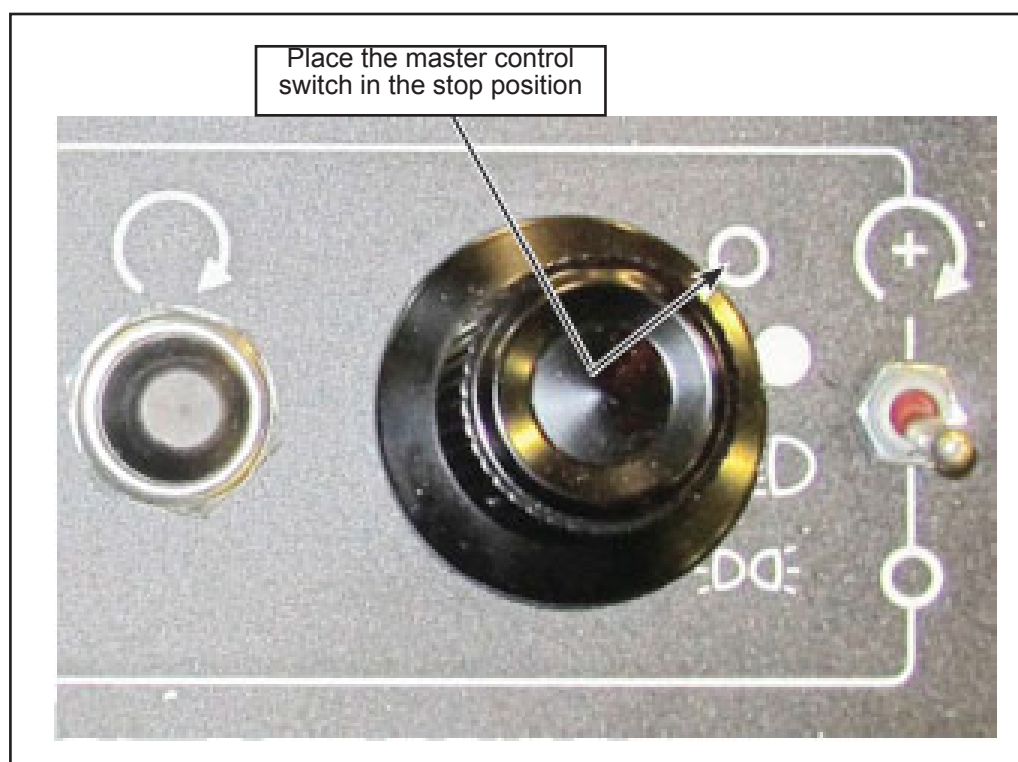

Figure 1 - Place the Master Control Switch in the Stop Position
- 1.2. Place the master control switch in the stop position (see Figure 1).